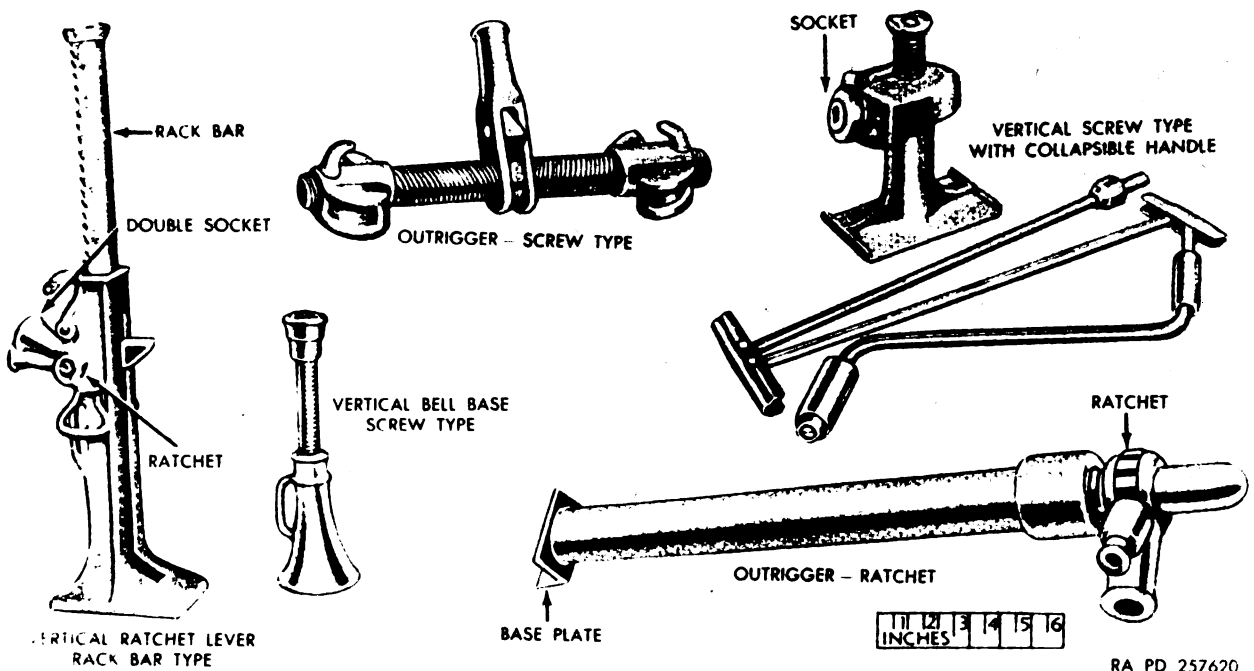

Figure 150. Mechanical jacks.
(figs. 150 through 155)
a. *Screw Jacks.* The vertical screw jack (fig. 150) is operated by hand through a collapsible handle which is inserted in a socket.
b. *Ratchet Lever Jacks.* A vertical ratchet lever jack (fig. 150) has a rack bar that is raised or lowered through a ratchet lever. Some of these jacks are equipped with a double socket; one for lowering, one for raising. Others have one socket and have an automatic lowering feature. An outrigger-ratchet jack